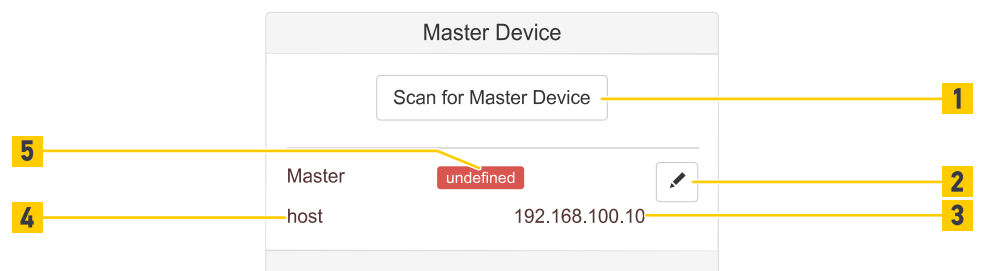

Fig. 95: Master Device
- To find a master device automatically scan for master devices by clicking the Scan for Master Device button (Fig. 95 /1).
- To set the IP address of the master device manually click the edit button (Fig. 95 /2) and set the IP address.
- When the slave connects to the master the status (Fig. 95 /5) changes to working.
- The hostname (Fig. 95 /4) and the IP address (Fig. 95 /3) of the connected master are shown.